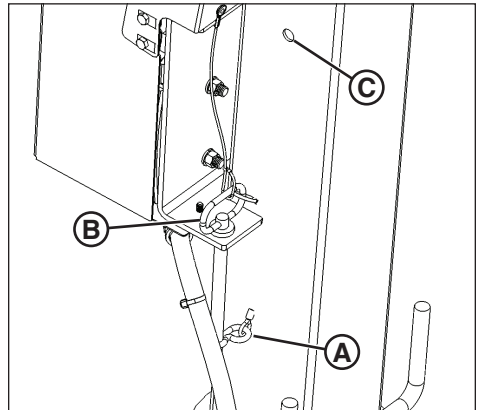

Figure 12
3. Remove the hair pin cotter (A, Figure 12) and tower mast locking pin (B) from the stowing hole shown in Figure 12. Insert the tower locking pin in the locking hole (C), and secure with the hair pin cotter.
2. Remove the hair pin cotter and tower locking pin from the hole in the tower. Place the tower locking pin in the stowing hole and secure with the hair pin cotter. See Figure 12.